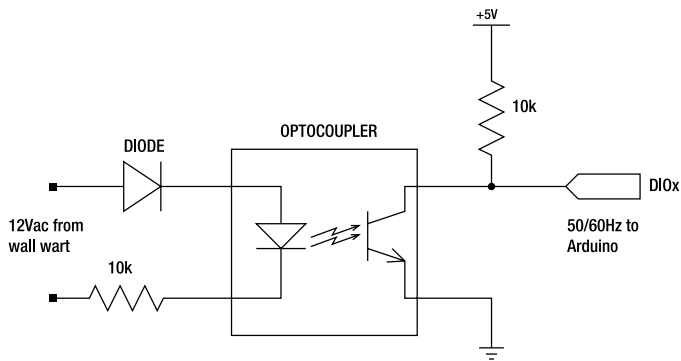

Figure 16-12. Using mains to provide accurate 50/60Hz reference
■ **Note** We can apply the principle of this optocoupler-based isolation circuit to provide a mains synchronised 50Hz/60Hz reference signal. Figure 16-12 shows the general approach: 12 VAC is provided from a plugpack/wall wart to power the LED in the optocoupler. The external diode means that the optocoupler only sees voltage for one half of the mains cycle and so the transistor will be turned on at 50 or 60Hz depending on the local mains frequency. The external diode is preferred to relying on the LEDs own diode action because it ensures the reverse voltage on the optocoupler isn't exceeded. The plugpack can, of course, be used to power the rest of the circuitry through a suitable bridge rectifier, filter, and regulator.